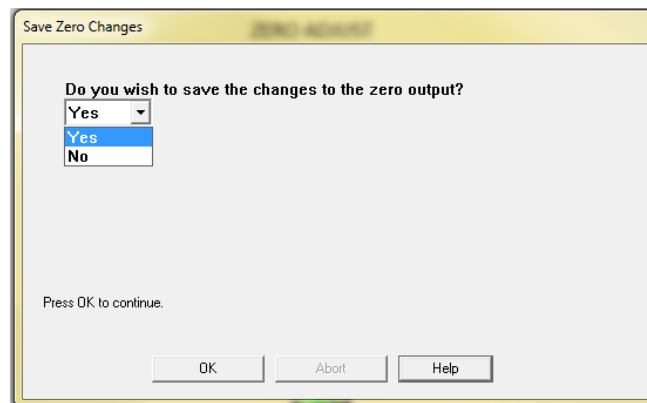

Figure 11 Save Zero Changes Option Box
3. The zero setting must be stored in the 511/521/522 by clicking the “Save Changes” button. The “Save Zero Changes” option box will prompt you to confirm whether or not you wish to save the zero setting to the device. (see Figure 11) If the settings are not saved when the unit is powered down, it will go back to the last saved setting when it is powered back up.